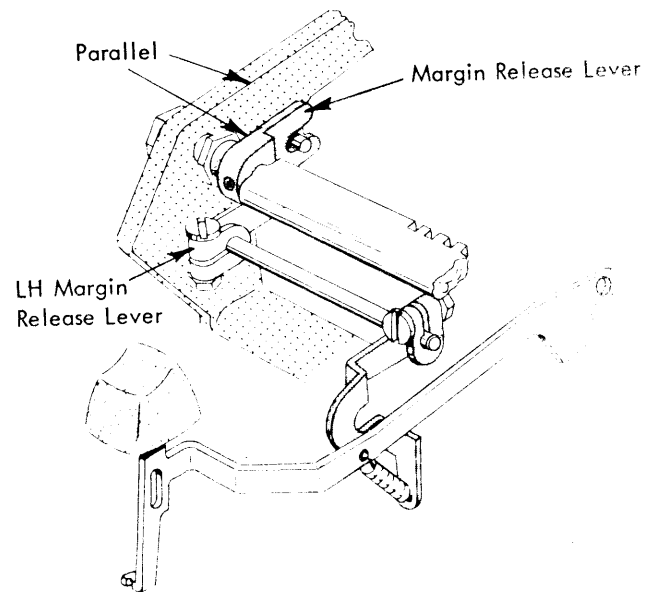

FIGURE 173. Margin Release Mechanism (723 & 725 Old Style)
1. With the margin release keylever at rest, loosen the left hand margin release lever and adjust it radially about its shaft so that the top surface of the margin release lever (Fig. 173) is parallel with the slope of the sideframe. The lever should also be positioned laterally on its shaft so that it operates freely without restricting the margin rack motion when the rack is pushed to the left into its overbank position.
2. With the margin release keylever at rest, loosen the Bristol screw in the margin release lever and rotate the margin rack (within the release lever) to a level position (Fig. 173). Then tighten the Bristol screw.